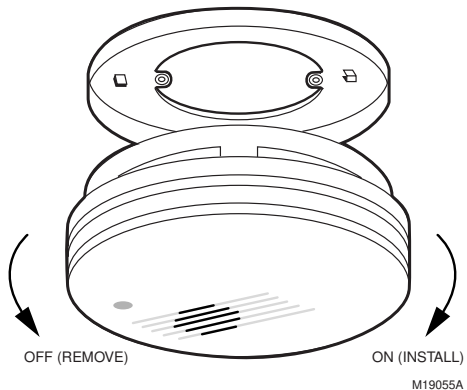

Fig. 6. Installing alarm on mounting plate.
8. Turn the alarm in the direction of the On arrow on the alarm cover until it locks in place. See Fig. 6.